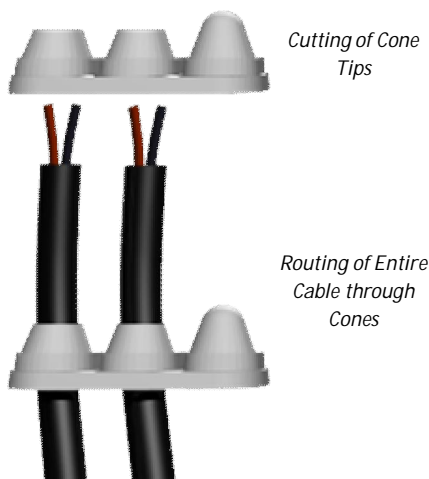

Fig. 8 - Cutting of Cones for Wiring
Refer to figures 8 and 9 when following these wiring procedures.
- Prepare the rubber plugs by clipping the end of the rubber cone to create an opening slightly smaller than the diameter of the cable. This will allow the rubber to stretch slightly and seal around the cable jacket. A sharp razor blade or wire cutters can be used to cut the cone tip (see figure 8).
- Split the cable jacket approximately 1" (2.54 cm) (see figure 8).
- Route the cable(s) through their respective cones in the rubber plug (see figure 8).
- Strip each conductor insulation back approximately 0.25" (0.64 cm) (see figure 8).